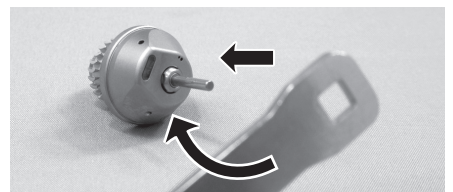

Fig. 22
- 3) Finally insert the Rotor Nut along the Test Bur and firmly tighten it with the Chuck Wrench while holding the rotor. (Fig.22)